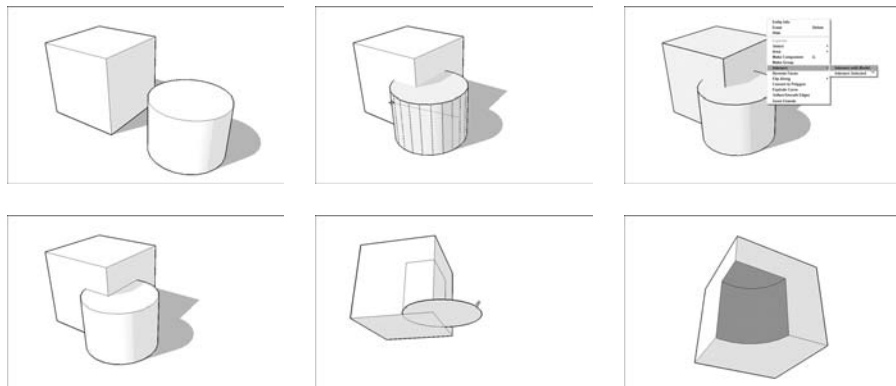

Figure 4-36:
- ✔ **Intersect with Model makes new geometry from existing geometry.** That's how it works: It takes faces you've selected and creates edges wherever they intersect. You use *Intersect with Model* in cases where you need to create forms that are the *union* (both put together), *difference* (one minus the other), or *intersection* (the part they have in common) of other forms. Figure 4-36 shows what I'm talking about: Perhaps I want to make a model that's a cube with a cylinder-shaped chunk taken out of it. I would model the cube and model the cylinder. After positioning them carefully, I could then use *Intersect with Model* to create edges where the two shapes' faces come together. After that, I would use the Eraser to get rid of the edges I didn't want — the rest of the cylinder, in this case.